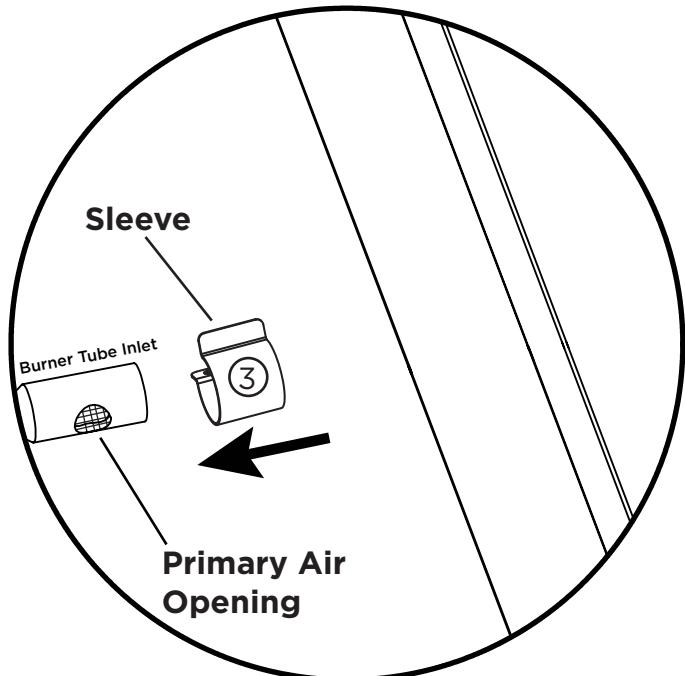

Fig. 1
6. Slip the sleeve (3) over the primary air opening (see Fig. 1). Next, screw the new NG orifice spud into the burner tube inlet (see Fig. 2).